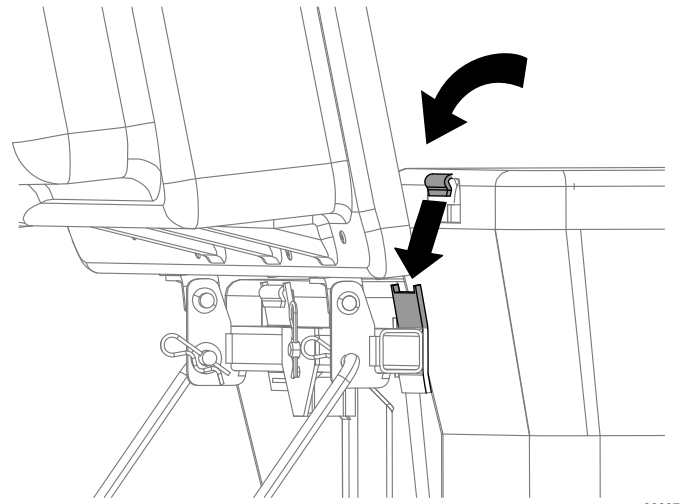

Figure 12
4. Lift the bagger top and install the bags by sliding the bag frame hooks onto the retaining brackets (Figure 12).